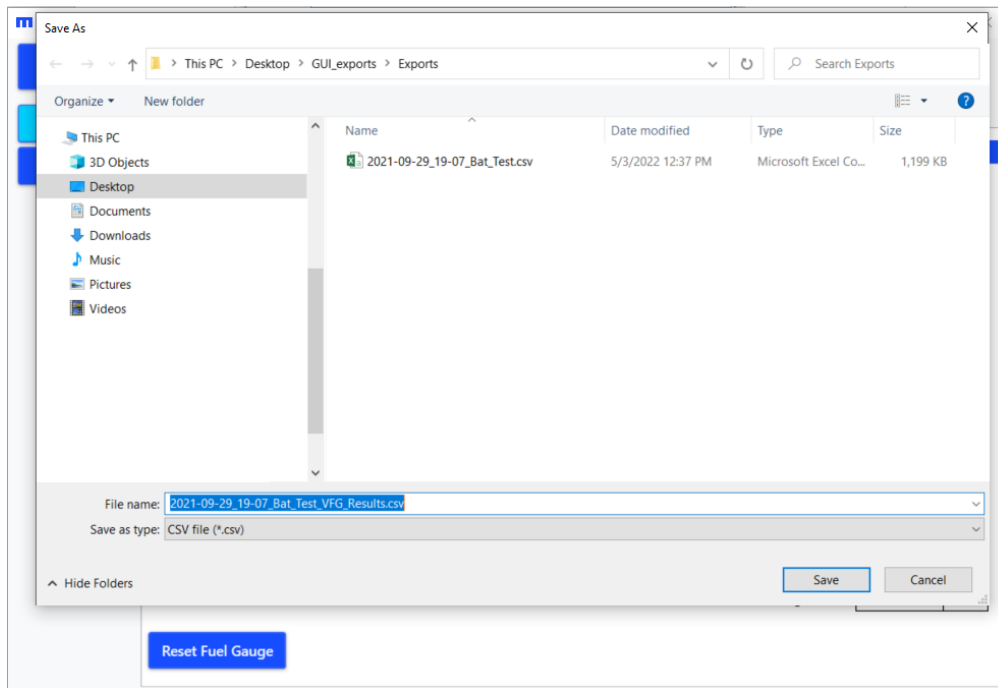

Figure 64: Virtual Fuel Gauge (Store Results)
6. Once a valid file is selected, click “Generate” to start a test. A window should appear to allow the user to select where the test results are stored (see Figure 64).